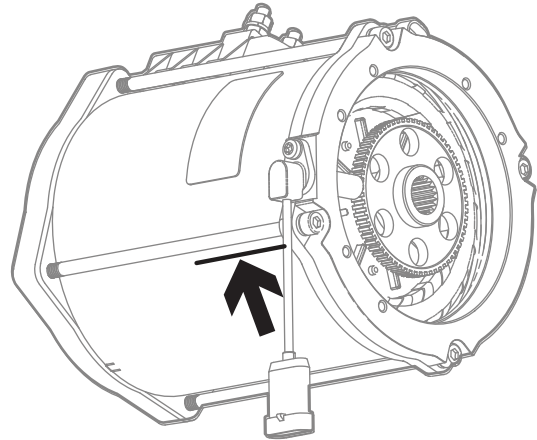

Fig. 7 Mark Axle and Motor
2. Mark both the axle and motor housings to help with realignment during assembly of the motor to rear axle (Ref. Fig. 7).